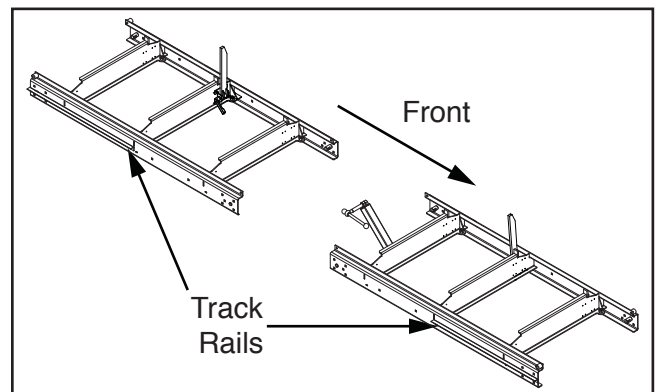

Figure 12. Track section orientation.
6. With the help of an assistant, remove both track sections and place them in assembly location, oriented as shown in **Figure 12**.